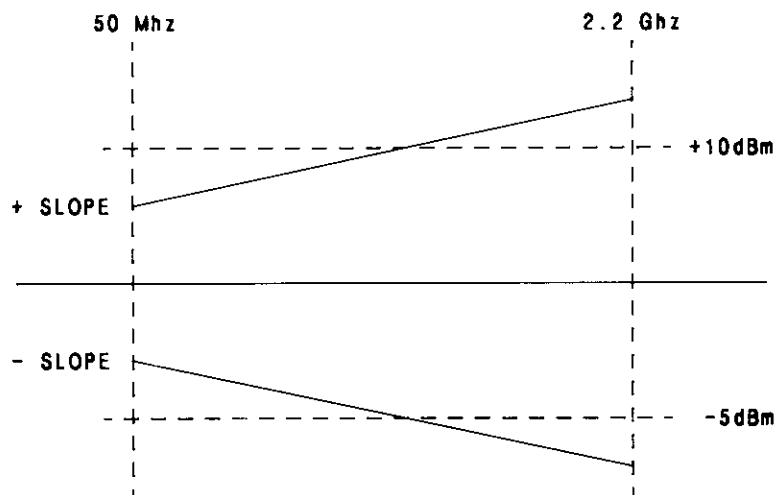

Figure 5-32. 0 Slope Adjustment
9. Adjust A4R1 (SLP) to get the same but opposite difference between (50 MHz and 2.2 GHz at  $-5$  dBm) and (50 MHz and 2.2 GHz at  $+10$  dBm). See Figure 5-32.